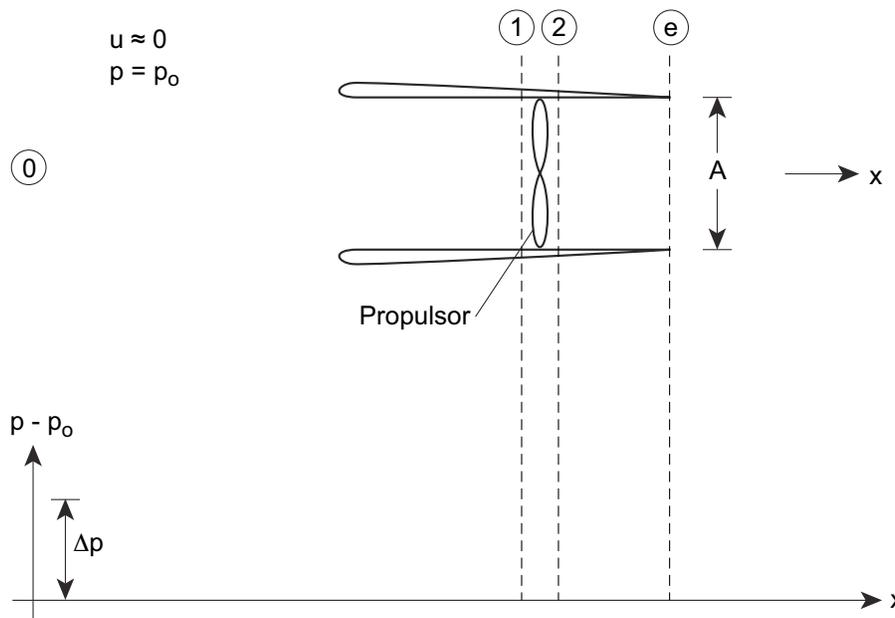

Figure 1: Propulsor in duct.
Part 1) We start with operation in a constant density inviscid fluid, of density ρ . The duct (nacelle) has constant area, A , as in Figure 1. There is a static pressure rise Δp , across the propulsor. The flow at the propulsor exit is axial, i.e., aligned with the axis of the nacelle. The propulsor/nacelle is at static conditions, in other words operating in a fluid that is at rest far away.
- 1c) What are the *static* and *stagnation* pressure distributions along the x-axis, from far upstream to far downstream? Indicate this on the axes in Figure 1.
- 2c) What are the *static* and *stagnation* pressure distributions along the x-axis, from far upstream to far downstream? Indicate these on the axes in Figure 1.
- 3a) What are the *static* and *stagnation* pressure distributions along the x-axis, from far upstream to far downstream? Indicate this on the axes in Figure 1.